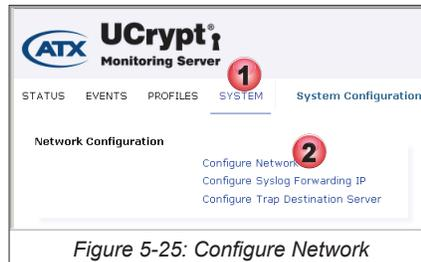

Figure 5-25: Configure Network
1. Click the **System** Tab if it is not already selected, Figure 5-25.